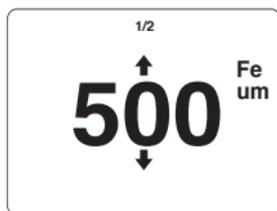

Figure 5
4. Press the  $\blacktriangle$  and  $\blacktriangledown$  arrows to adjust the value to the actual thickness of the standard coating thickness film (as shown in Figure 5).